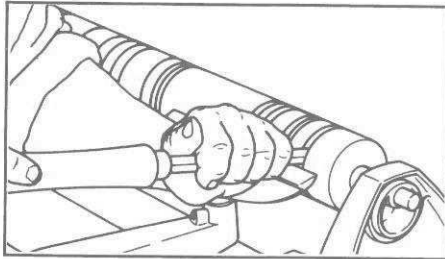

Figure 6. Sizing.
b. Turn on the machine and increase the speed slightly. With a parting tool, cut grooves in the stock. (See Figure 6.) Use calipers to check the diameters.